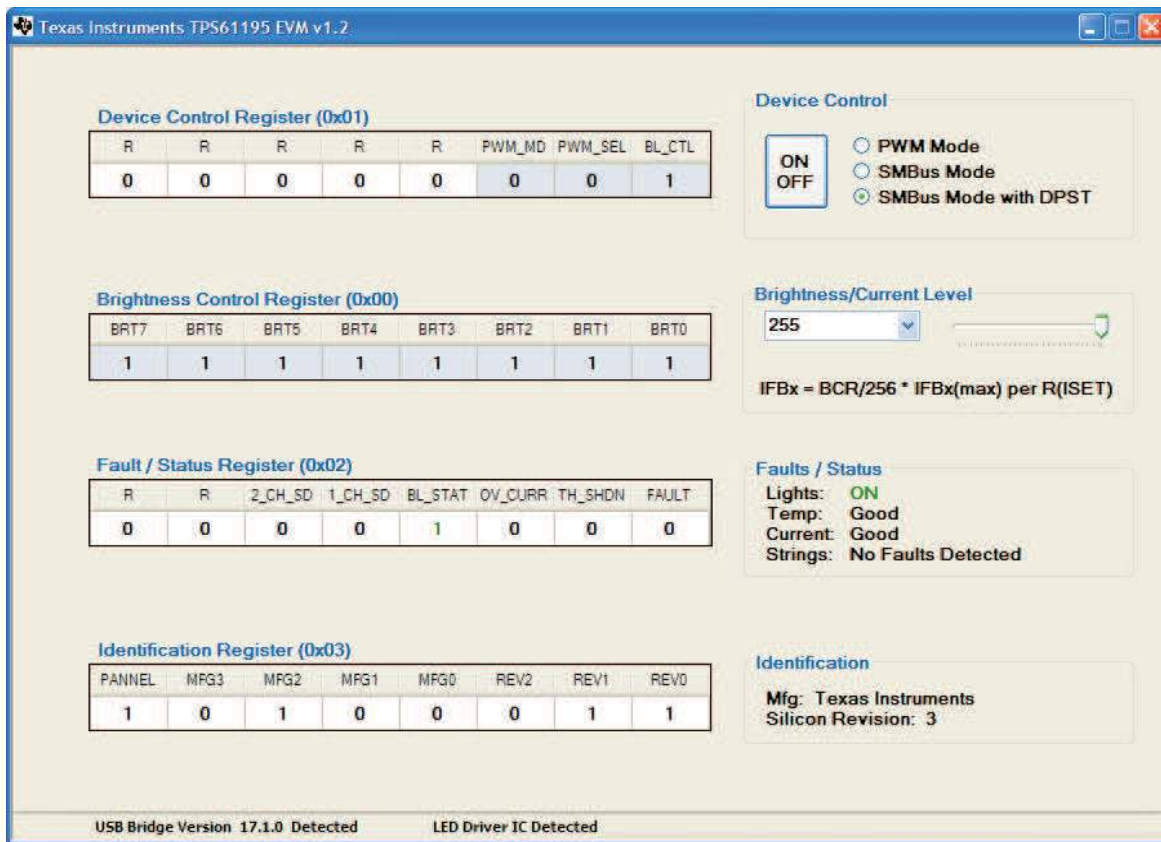

Figure 3. Screen Capture of TPS61195 Controller Software GUI Interface
- Figure 3 shows the software interface screen.